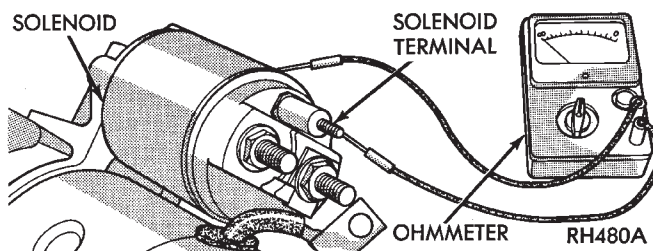

Fig. 10 Continuity Test Between Solenoid Terminal and Solenoid Case
(3) Check for continuity between the solenoid terminal and the solenoid case (Fig. 10). There should be continuity. If OK, go to Step 4. If not OK, replace the faulty starter assembly.